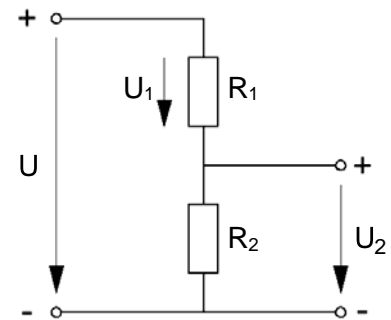

Fig. 4.1.1.1: Off-load voltage divider
In electrical engineering and electronics, it is often necessary to split a specific voltage into smaller partial voltages. A voltage divider solves this problem very easily. In its simplest form, it consists of two resistors connected in series (Fig. 4.1.1.1). Two connections form the input for the input voltage (U). At the output side, a partial voltage (U₂) is available across the resistor.